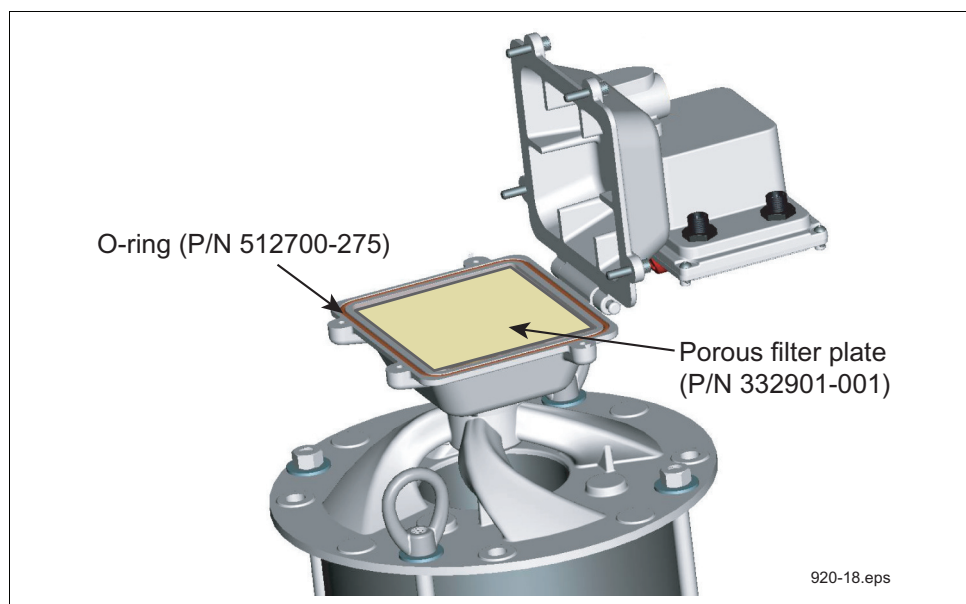

Figure 16. Replacing the valve filter and o-ring
2. Swing the housing top back and remove the filter plate from its seat and the o-ring from its groove in the vapor valve filter housing's lower half (see Figure 16).